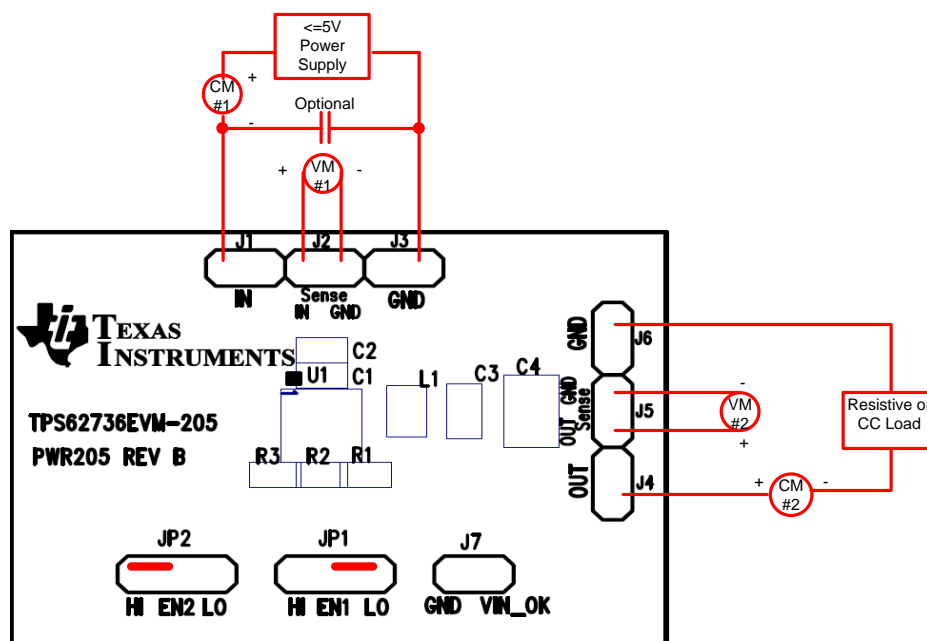

Figure 2. EVM Test Setup for Measuring Efficiency
Table 1 and Figure 2 show the test setup for measuring efficiency.
1. Ensure that the EVM setup is according to Table 1 and Figure 2, and preset the power supply to a voltage less than 5.5 V at a current limit of approximately 100 mA.